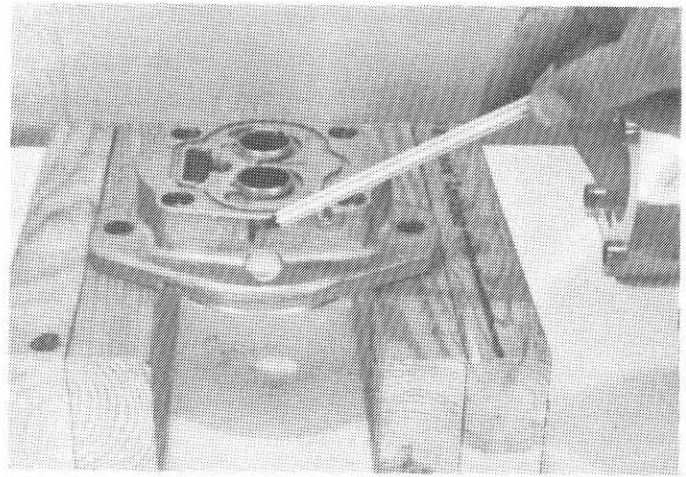

FIG. 18
27. Examine flange plate (1) and make sure shaft seal (6) and snap ring (7) have been properly installed. With the o-ring groove facing up and the matching mark you made in step 2 facing toward you, place the flange on the blocks with the seal centered between them. (Fig 18)